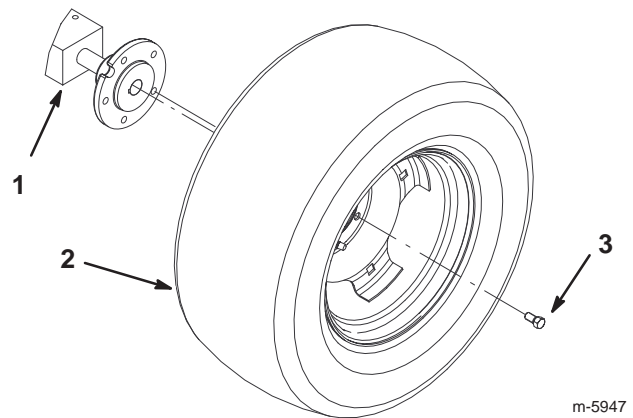

Figure 2
2. Remove both rear tractor wheels (Fig. 2).